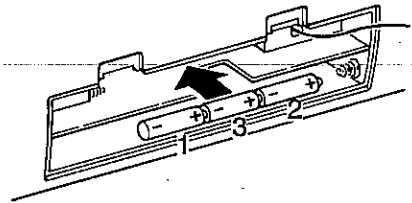

Fig. 3
2. Install 3 "AA" size batteries (not supplied) into the small battery compartment above the "D" size batteries, matching the polarity as shown on the back of the unit (Fig.3).